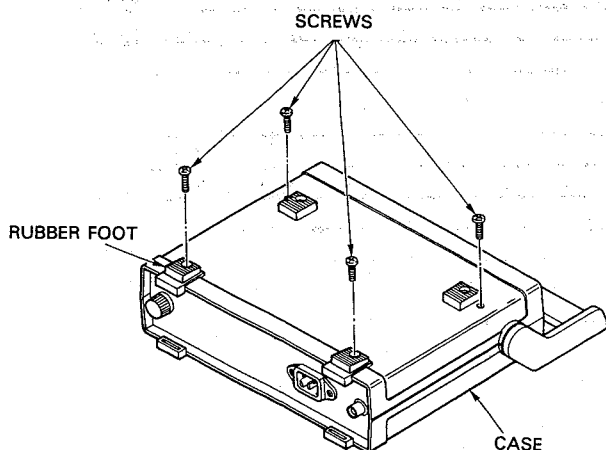

Fig. 2
1. To open the case, turn the unit upside down with the rubber feet facing up. (See Fig. 2)